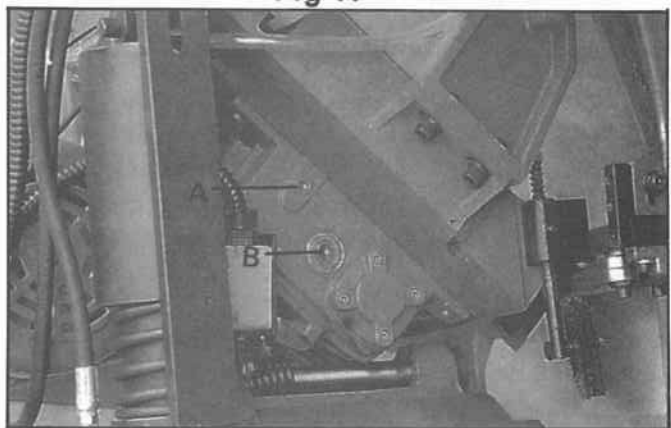

Fig 15
AFTER THE FIRST 3 MONTHS OF USE THE GEAR BOX SHOULD BE DRAINED AND REFILLED. THEN, CHANGING THE OIL ONCE A YEAR. REFER TO FIG. 15, (A) IS OIL GAUGE, (B) IS OIL INLET.